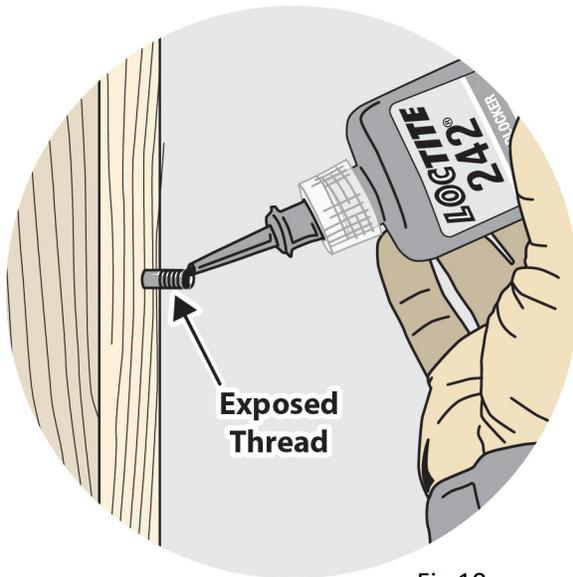
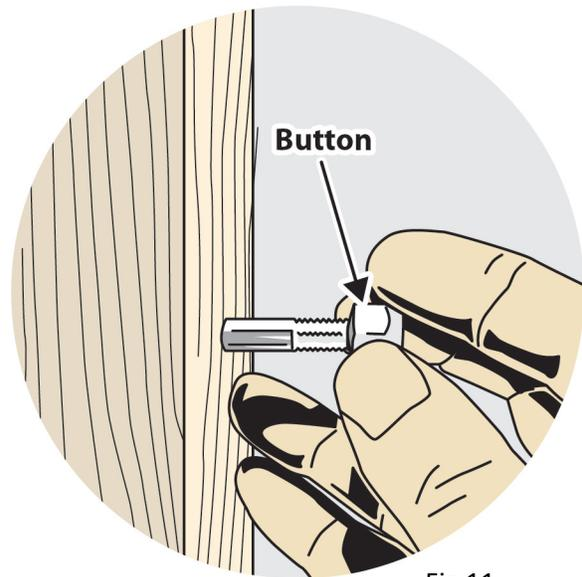

Fig 10
Fig 11
- a) Insert Classic Button Turnbuckle/Swage Button End Shaft through the 3/8” drilled hole on Post 1. Apply Loctite™ to the threads (Fig. 10) and screw on the button which will rest on the outside face of the post (Fig. 11).